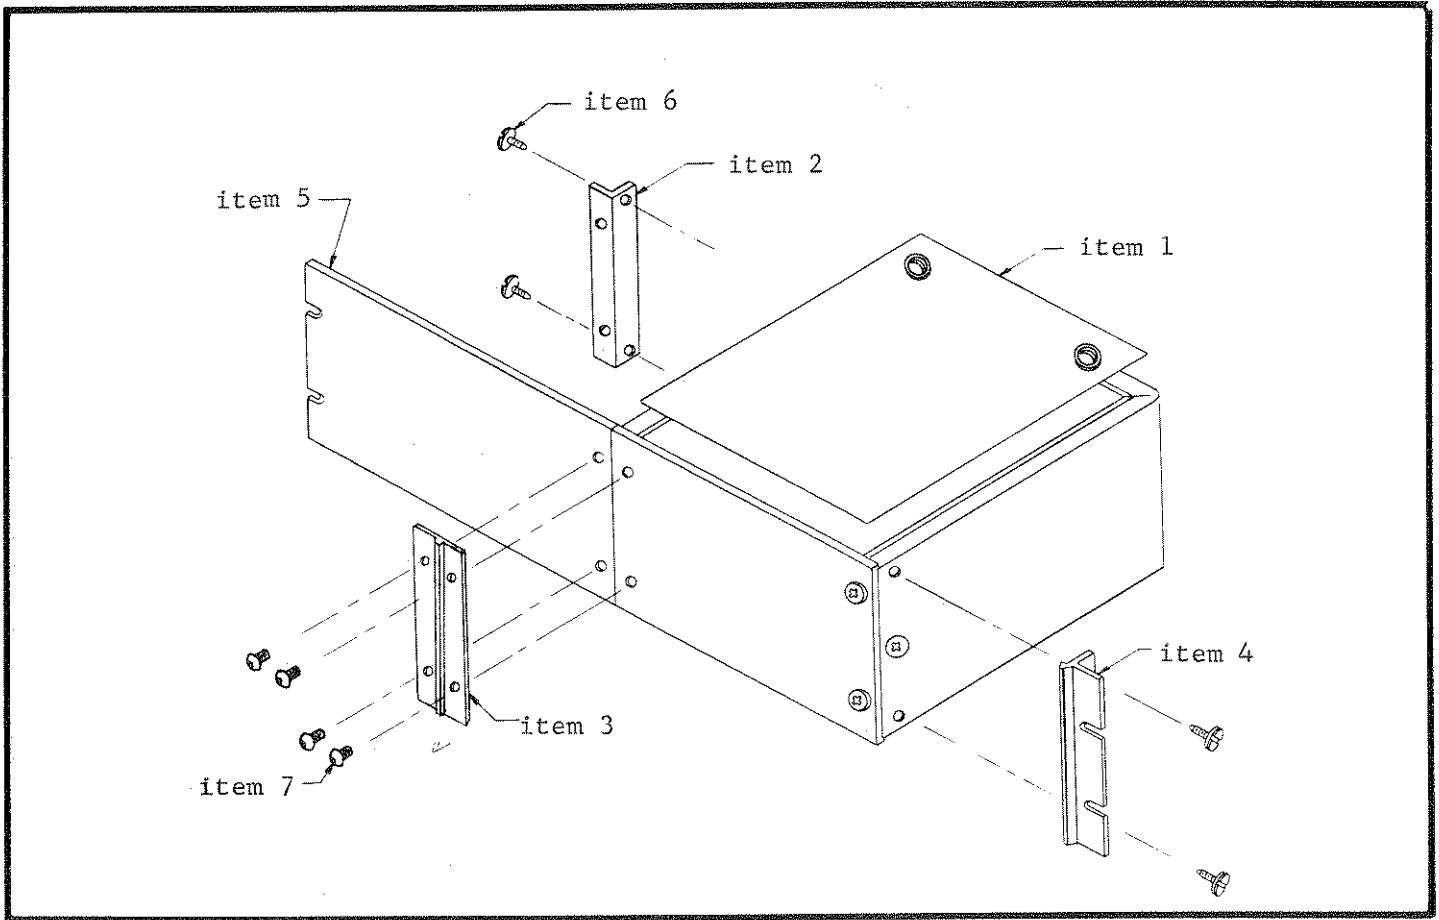

FIGURE 14. Assembly Drawing for Model 4003A Rack Mounting Kit.
b. Procedures. Remove the wrap-around cover on the Source by removing the two corner screws at the bottom of each side. Add the rack mounting parts to the Source as shown in Figure 14. Attach in this order: cover (1), rack angle (5), panel support angle (2), rack panel adapter (7), and chassis connecting plate (3).